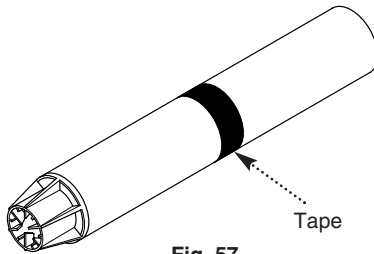

Fig. 57
7. Take the flue terminal assembly and pass through the cut hole from outside. Engage on the flue and air ducts. Slide the flues together to the desired wall thickness. Tape the outer duct sections together with the tape provided ensuring a good seal is made (Fig. 57).